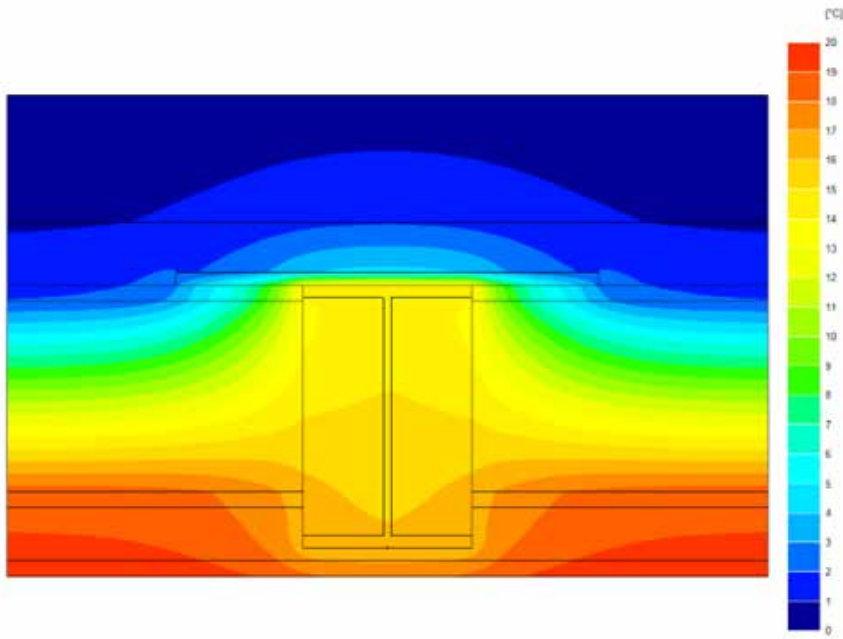

Figure 15: Calculated temperatures through wall with 10mm of Spacetherm outside the steel
- Wall test B Fig.15: 10mm Wraptherm on outside of steel